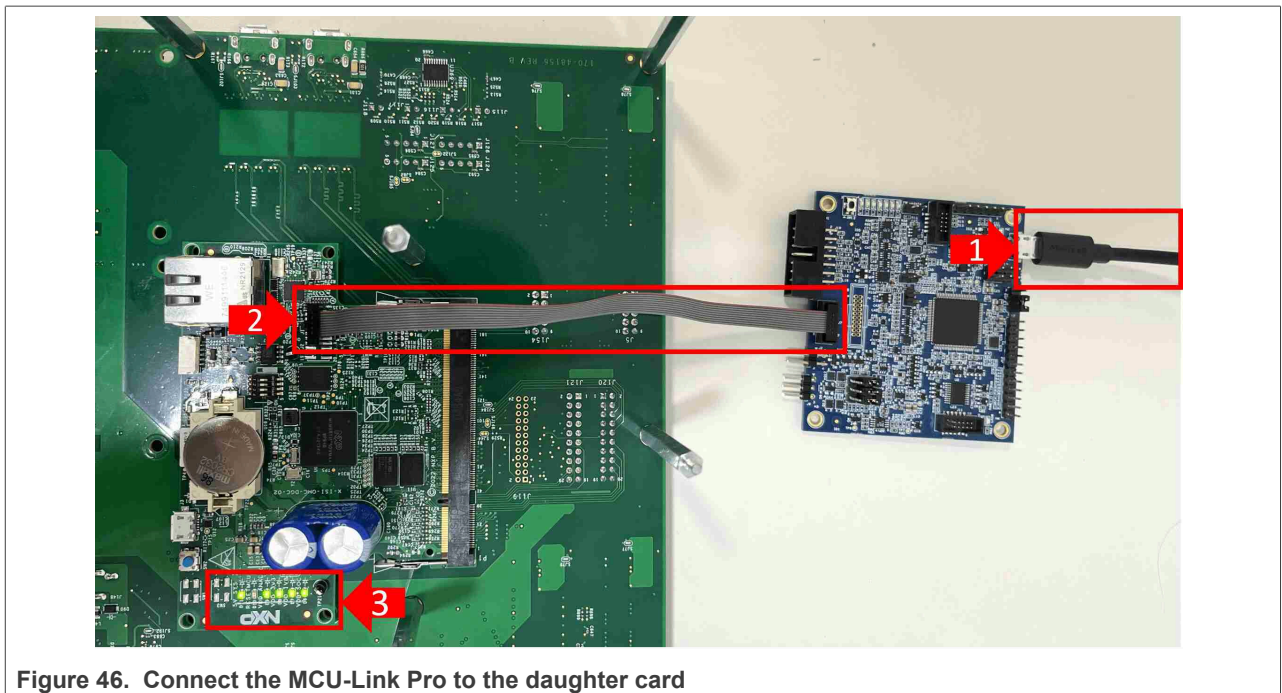

Figure 46. Connect the MCU-Link Pro to the daughter card
1. Connect the MCU-Link Pro debug probe to the system as shown in Figure 46: